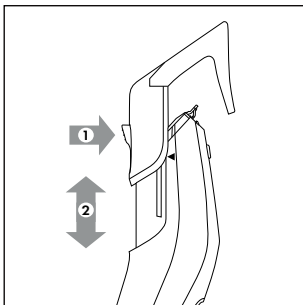
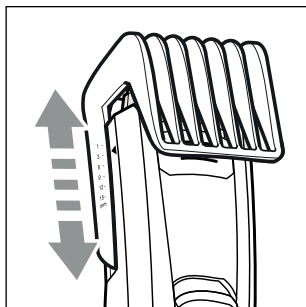

Fig. 3
Fig. 4
- ◆ Press the button on the back of the comb attachment **10/11** and push the comb attachment **10/11** upwards or downwards (see fig. 3). In this way, you can set the desired cutting length (see also the section **Cutting hair**).
- 3) Set the cutting length to the desired hair length on the comb attachment 10/11. To do this, press the button on the back of the comb attachment 10/11 and push the comb attachment 10/11 upwards or downwards (see fig. 3). You can read the cutting lengths via the markings on the comb attachment 10/11 (see fig. 4). Start with a longer cutting length and reduce this in stages while cutting the hair.
- ◆ Set the cutting length to the desired hair length on the comb attachment **10/11**. To do this, press the button on the back of the comb attachment **10/11** and push the comb attachment **10/11** upwards or downwards (see fig. 3). You can read the cutting lengths via the markings on the comb attachment **10/11** (see fig. 4). Now trim your beard in stages.